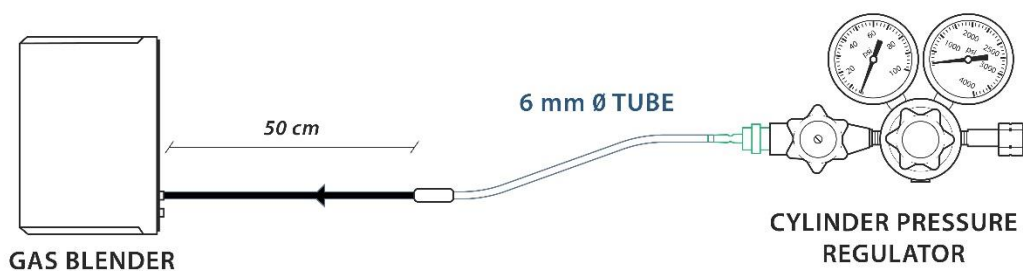
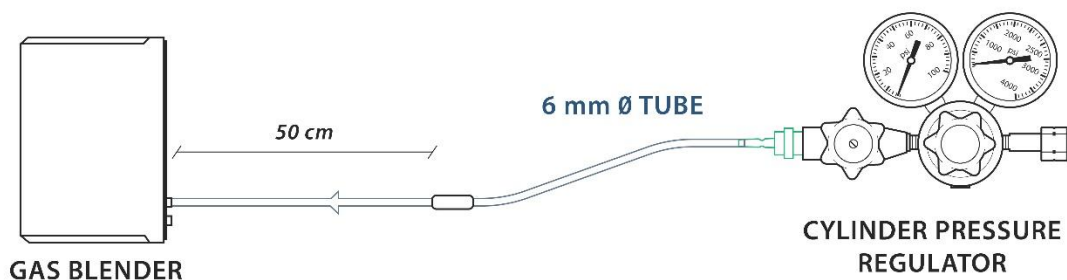
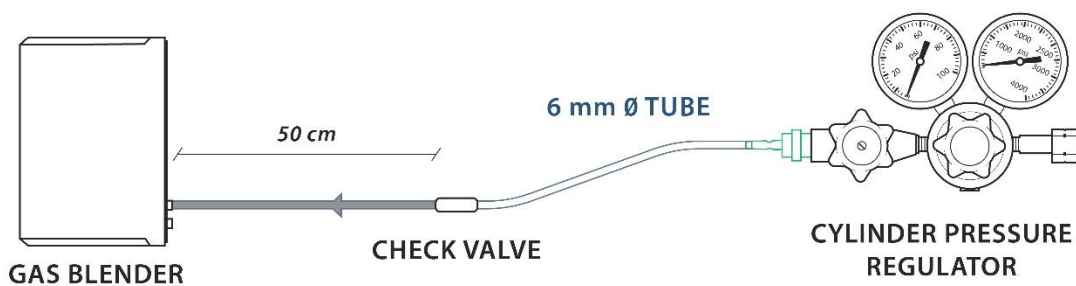

Figure 3-6
Figure 3-7
Figure 3-8
*Example: Channel 1 calibrated on N₂, channel 2 calibrated on O₂, channel 3 calibrated on CO₂, Channel 4 calibrated on H₂ (Figure 3-6, Figure 3-7, Figure 3-8, **Errore. L'origine riferimento non è stata trovata.**).*